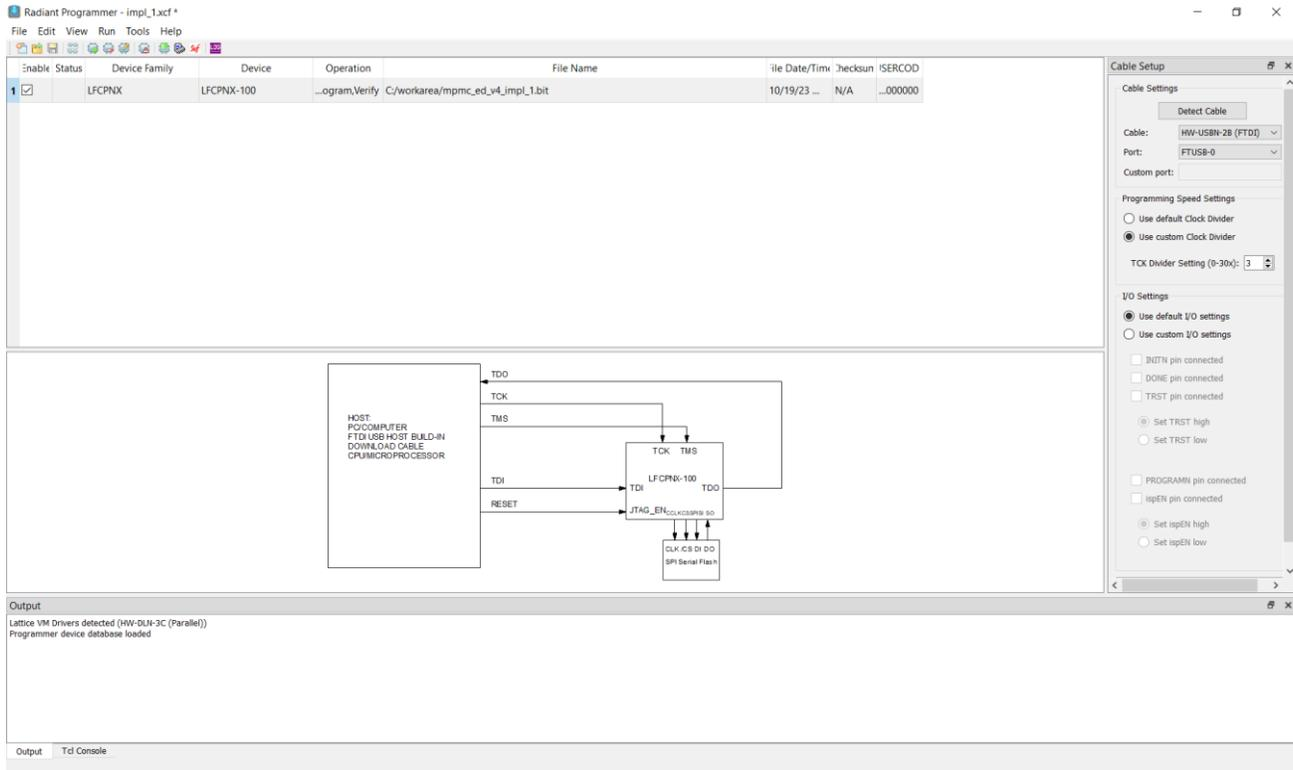

Figure 6.9. Lattice Radiant Programmer
2. Run the Lattice Radiant Programmer by clicking the button. The Lattice Radiant Programmer launches as shown in Figure 6.9, scans for devices, and configures the programmer automatically.